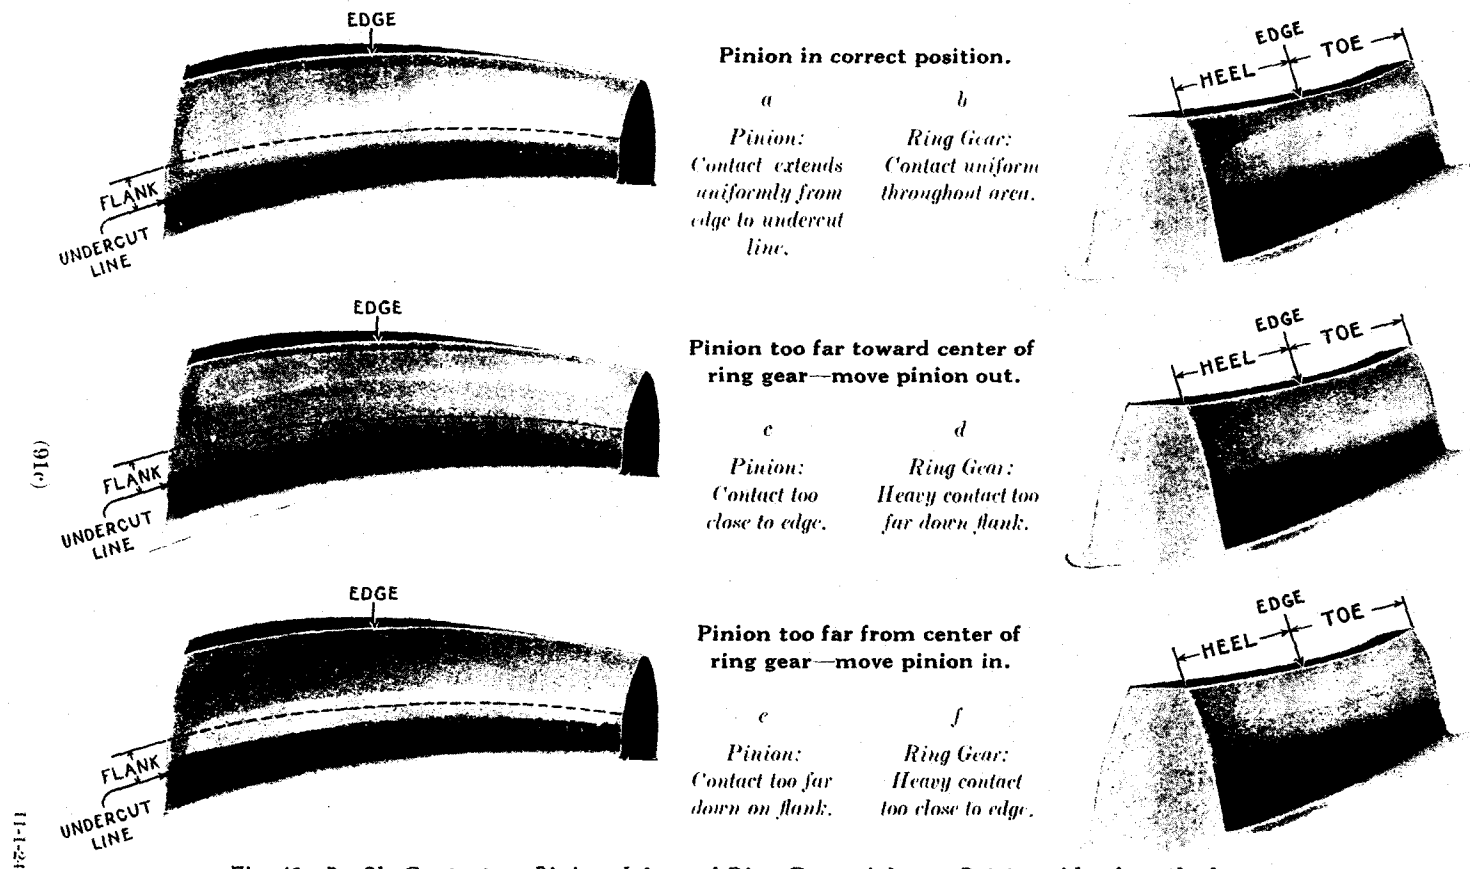

Fig. 45—Profile Contact on Pinion (left) and Ring Gear (right). (Driving side of tooth shown.)
Impressions of correct and incorrect tooth contact are shown in Figs. 45 and 46. While these diagrams are not reproductions of actual gear teeth, they represent clearly the positions of the contact area.
(1) Moving the *pinion in* moves the profile contact on the pinion toward the edge of the tooth and the profile contact on the ring gear toward the flank of the tooth. (See Fig. 45, c and d).
(2) Moving the *pinion out* moves the profile contact on the pinion toward the flank of the tooth and the profile contact on the ring gear toward the edge of the tooth. (See Fig. 45, e and f).